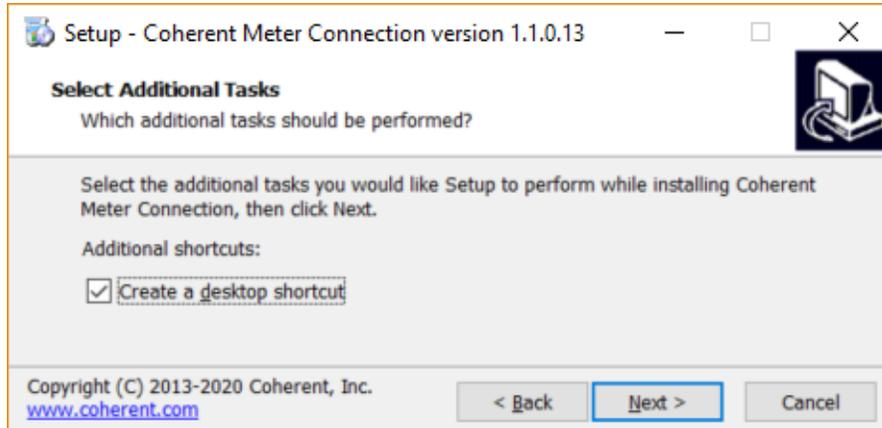

Figure 1-8. Create Desktop Icon
8. To create an icon for a shortcut to the application on your desktop, click the check box, as shown in Figure 1-8, and then click Next.